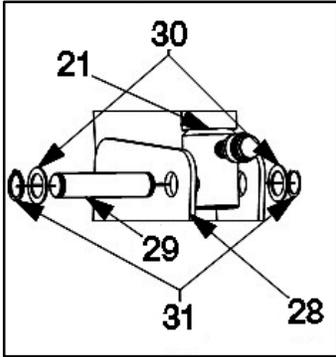

Fig. 12: Point hydraulic hose quick coupler away from frame
9. Align the hole on the quick coupler end of the cylinder [#21] with the holes of the cylinder mounting plates [#28], lifting the boom if necessary and making sure that the hydraulic hose quick coupler fitting is pointing away from the frame of the crane as shown in Fig. 12. Insert the 1" lower cylinder retaining pin [#29] into the aligned holes and adjust so that an approximately equal length protrudes from each of the mounting plates. Place a 1" washer [#30] onto each side of the retaining pin and snap a 1" retaining ring [#31] into each of the grooves in the retaining pin.